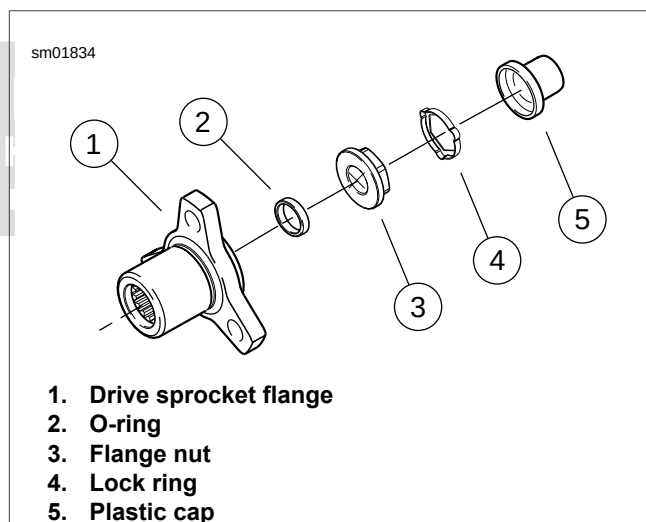

Figure 6-157. Drive Sprocket Flange Components
6. See Figure 6-157. Remove the plastic cap (5).
7. Use awl to remove the flange nut lock ring (4) from the drive sprocket flange (1).
8. Fit the lock pins of the FINAL DRIVE SPROCKET FLANGE LOCKING TOOL (Part No. HD-45331-A) to the sprocket mounting holes in the drive sprocket flange (1).
23. See Figure 6-157. Position locking ring (4) over the flange nut (3).